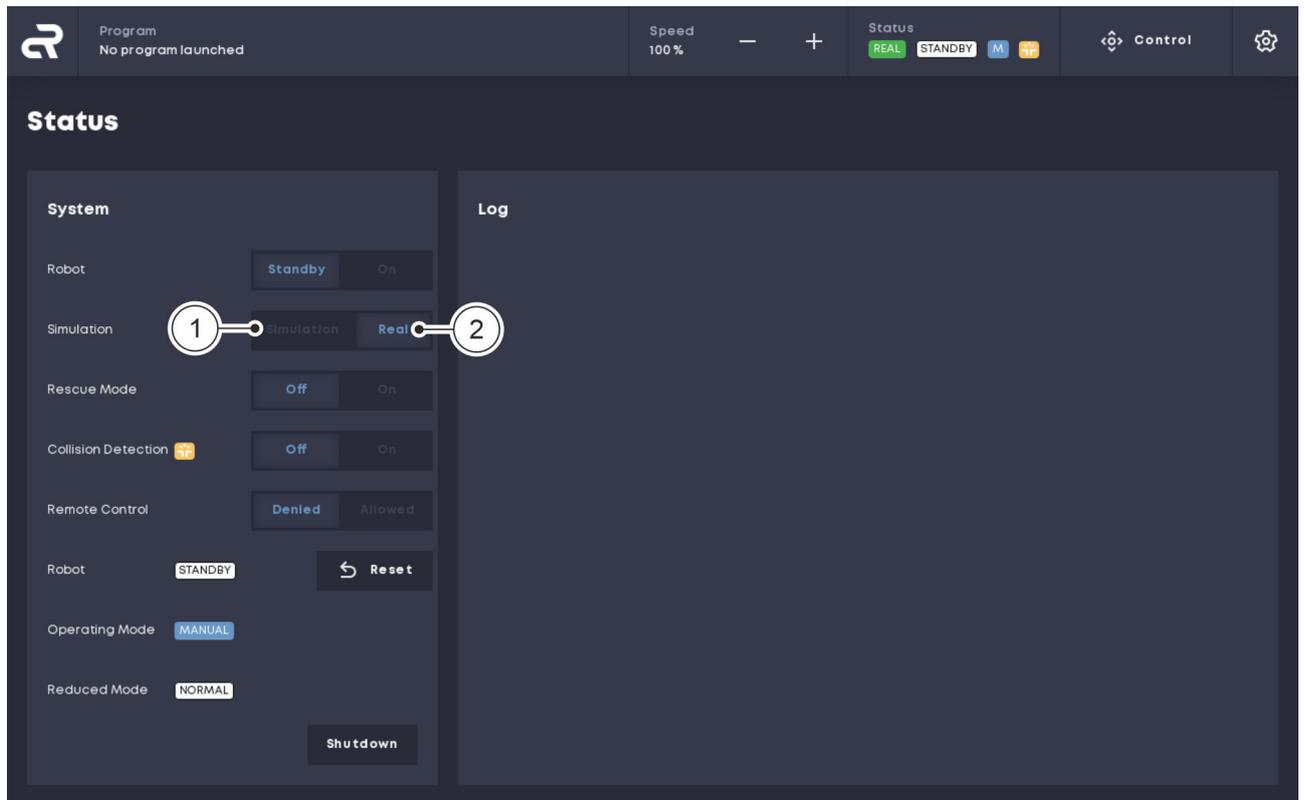

Fig. 8 Activating and deactivating simulation mode
02. In the 'Status' menu, click the 'Simulation' button to activate simulation mode Fig. 8/①.
03. In the 'Status' menu, click the 'Real' button to deactivate simulation mode Fig. 8/②.